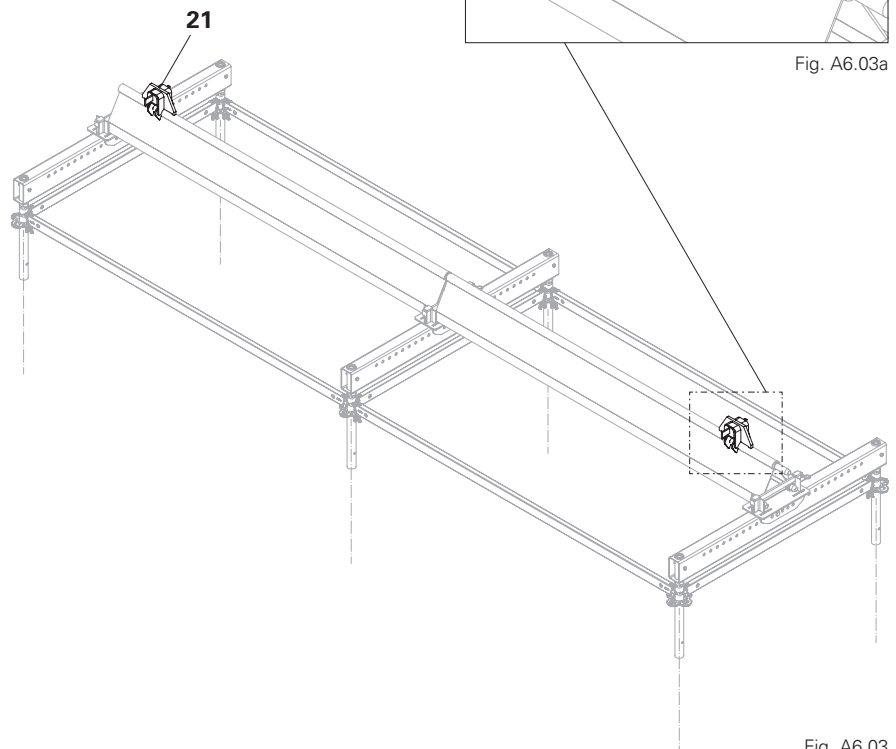

Fig. A6.03
2. Secure the wedge (**21.3**) with a hammer. (Fig. A6.03)